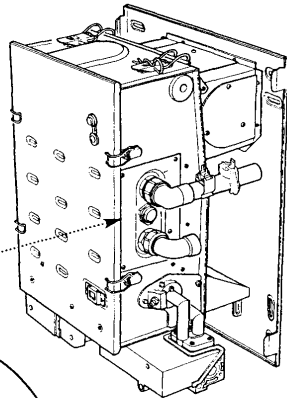

Fig. 75a
1. The boiler has two side water connections, the top connection being FLOW and the bottom connection being RETURN (Fig. 75a).